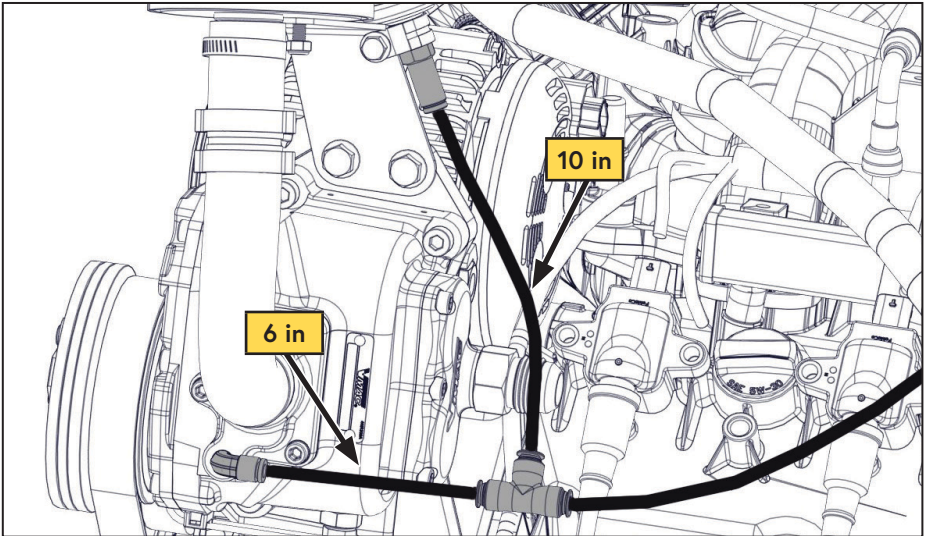

Figure 27 — Connect PTFE tubes
- Connect the 1/4 in PTFE scavenge tubes between the compressor, pressure switch, and Tee union (Figure 27).